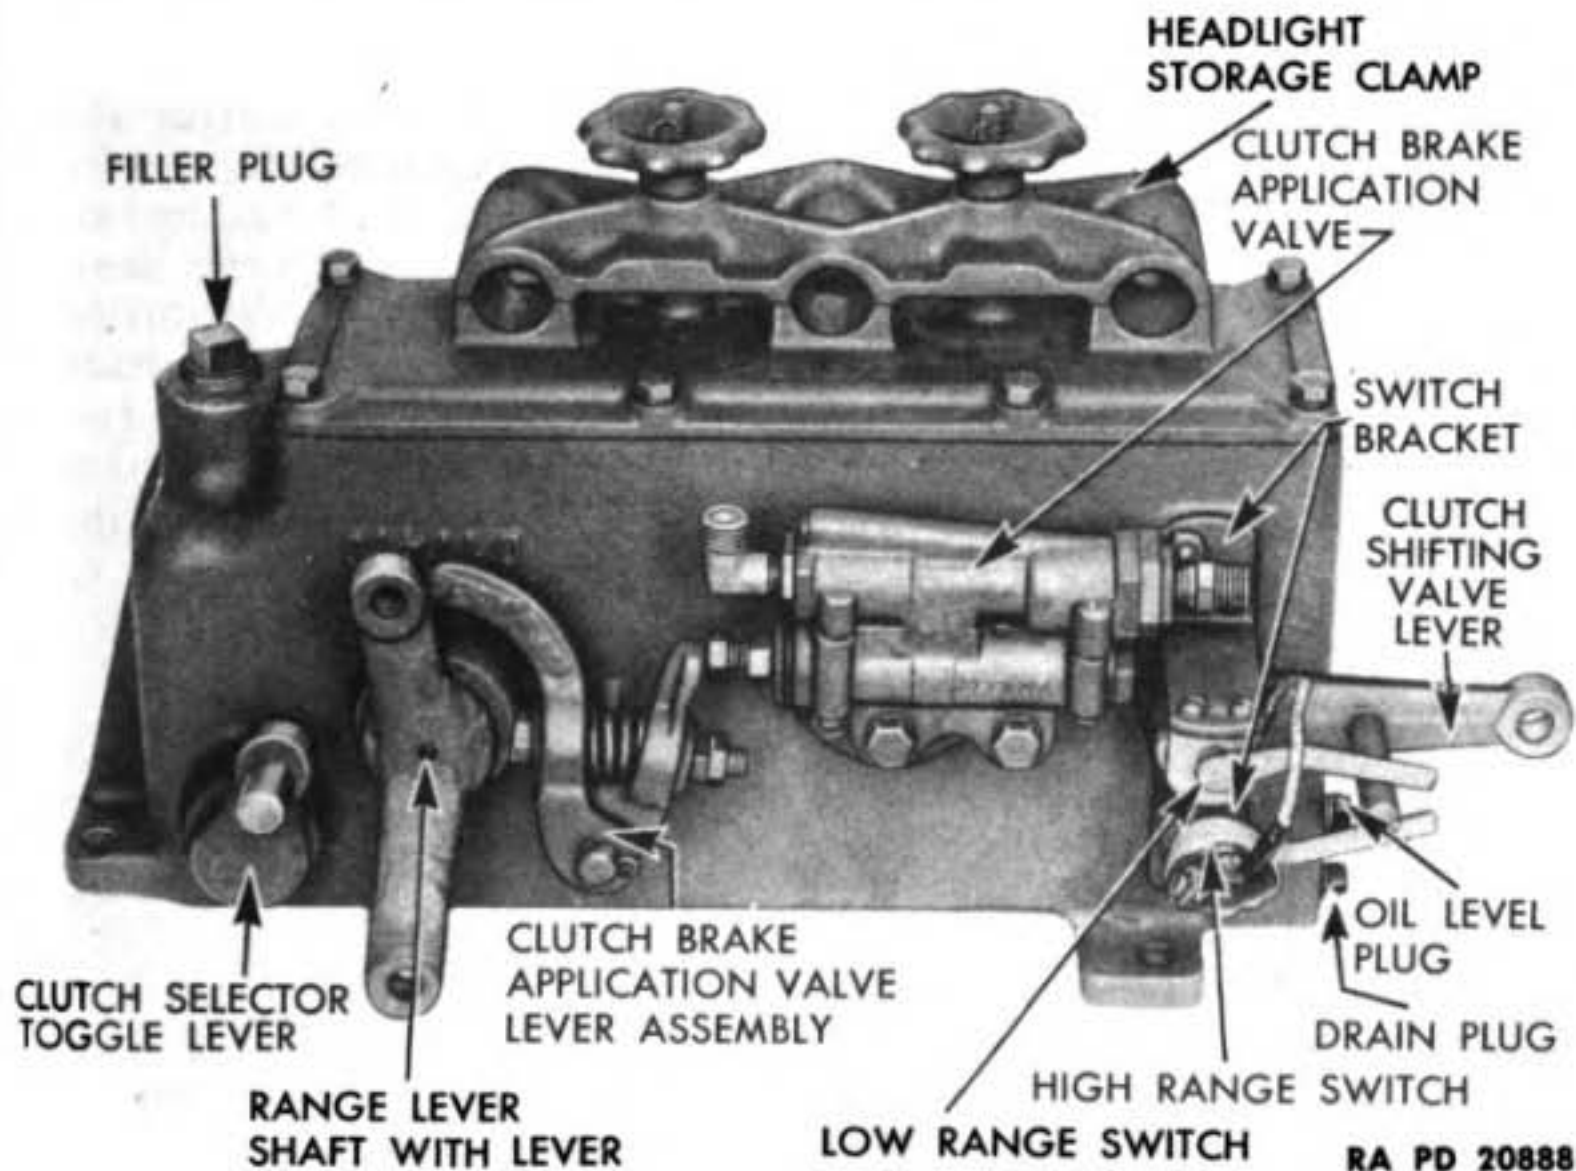

Figure 159 — Left Side View of Clutch Selector
a. **Description** (figs. 159 and 160). The clutch selector is part of the clutch controls. It consists of a housing, with cover, containing the mechanism which enables the operator to shift the clutch to neutral, or engage it in either high or low range, by actuating the service clutch pedal, when air pressure is normal, or both the service clutch pedal and emergency clutch pedal when there is no air pressure. The clutch selector is located below the driver's seat. On its cover is a clamp for storing the three headlights. Mounted to the side of the selector housing is the clutch brake application valve, which controls the application of the clutch brake. The two clutch range light switches are mounted to brackets on the side of the clutch selector housing, and are operated by the clutch shifting valve lever.
(1) **DRAIN OIL.** Remove drain plug at the rear of clutch selector (fig. 159), and drain oil.